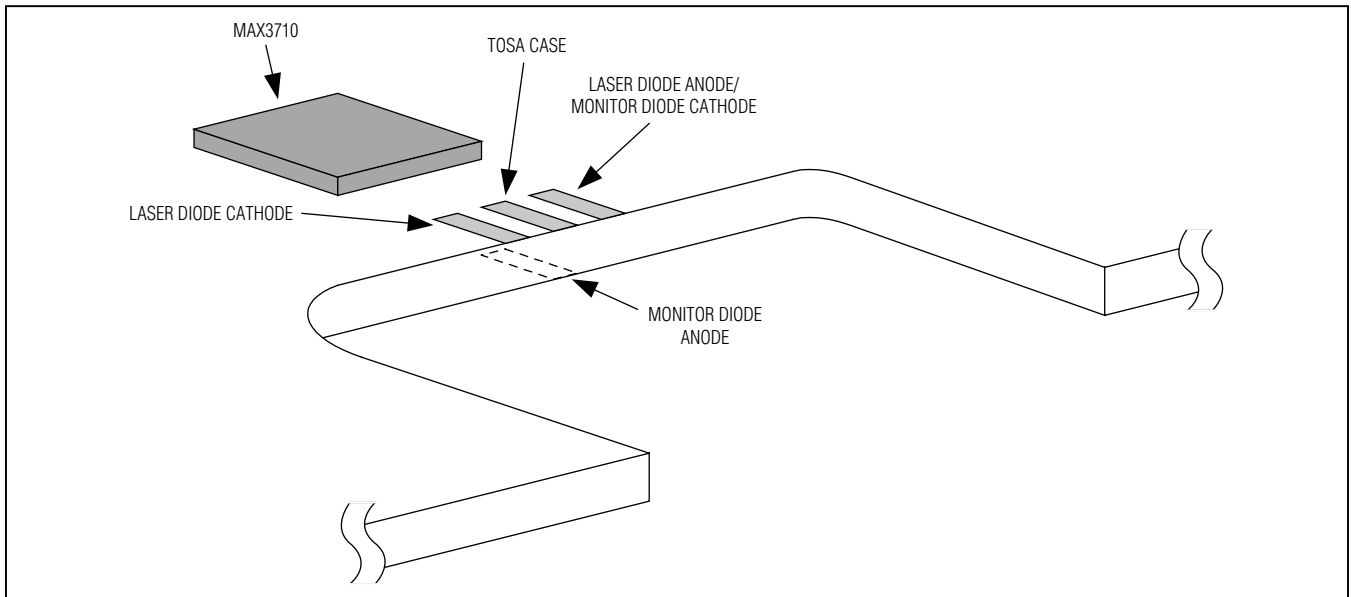

Figure 1. TOSA Connection
- 1) Solder a laser to connection D5. See Figure 1 for more information about the laser connection.
- 4) If BEN is to be operated through the SMA connectors, connect a 50Ω source to BEN+ and BEN- (J5 and J6). Set the source differential amplitude to 500mV_{p-p} and the common-mode voltage to 2V. See Figure 1 of the MAX3710 IC data sheet for more information on the acceptable differential and common-mode voltages at BEN.